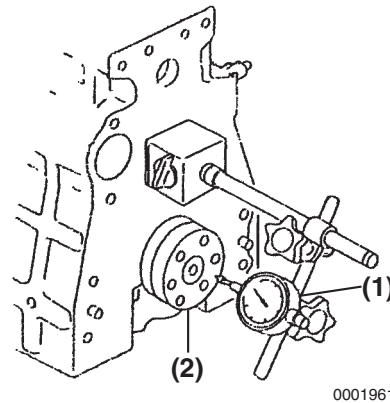

Figure 6-55
- **Method A:** Install a dial gauge (**Figure 6-55, (1)**) on the cylinder block. Move the crankshaft (**Figure 6-55, (2)**) in and out to measure the end play. Record the measurement.